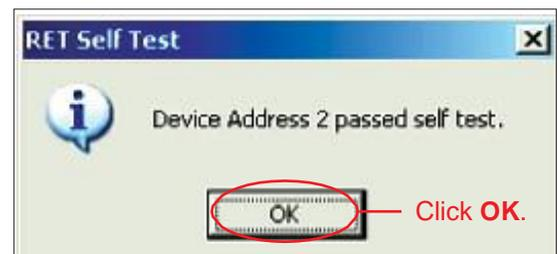

Figure 10-5. Self Test Results.
3. At the completion of the self test, a pop-up notification will appear showing the results of the test (Figure 10-5).
4. Click **OK** to dismiss the self test results pop-up notification (Figure 10-5).